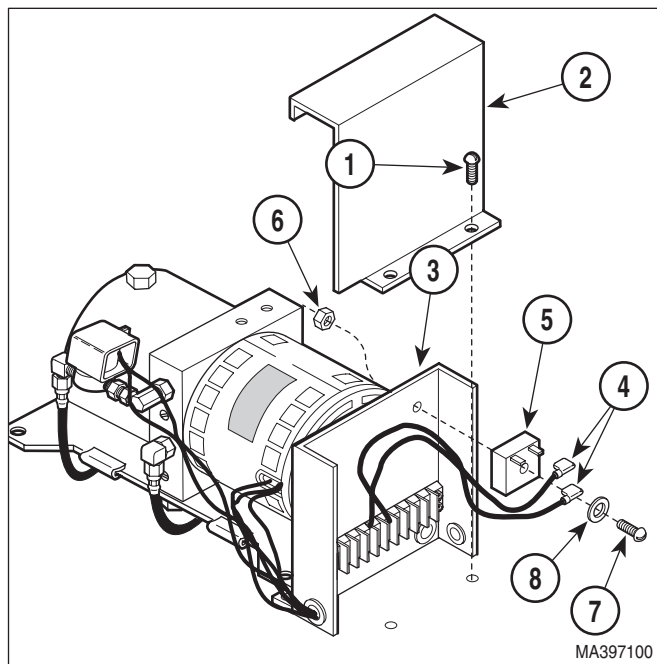

Figure 4-23. Time Delay Relay Removal / Installation
- (1) Unplug table power cord from outlet.
- (2) Remove motor cover assembly (Refer to para 4.2).
- (3) Remove two screws (1, Figure 4-23) and control cover (2) from control panel (3).
- (4) Tag and disconnect two wires (4) from terminals of time delay relay (5).
- (5) Remove nut (6), screw (7), washer (8), and time delay relay (5) from control panel (3).